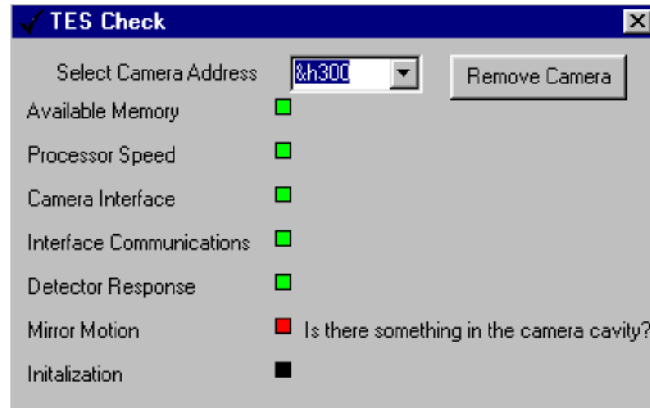

Fig. 4
- Selecting **Install Camera** will launch the diagnostic program WinTESCheck and open the window shown in fig. 4.